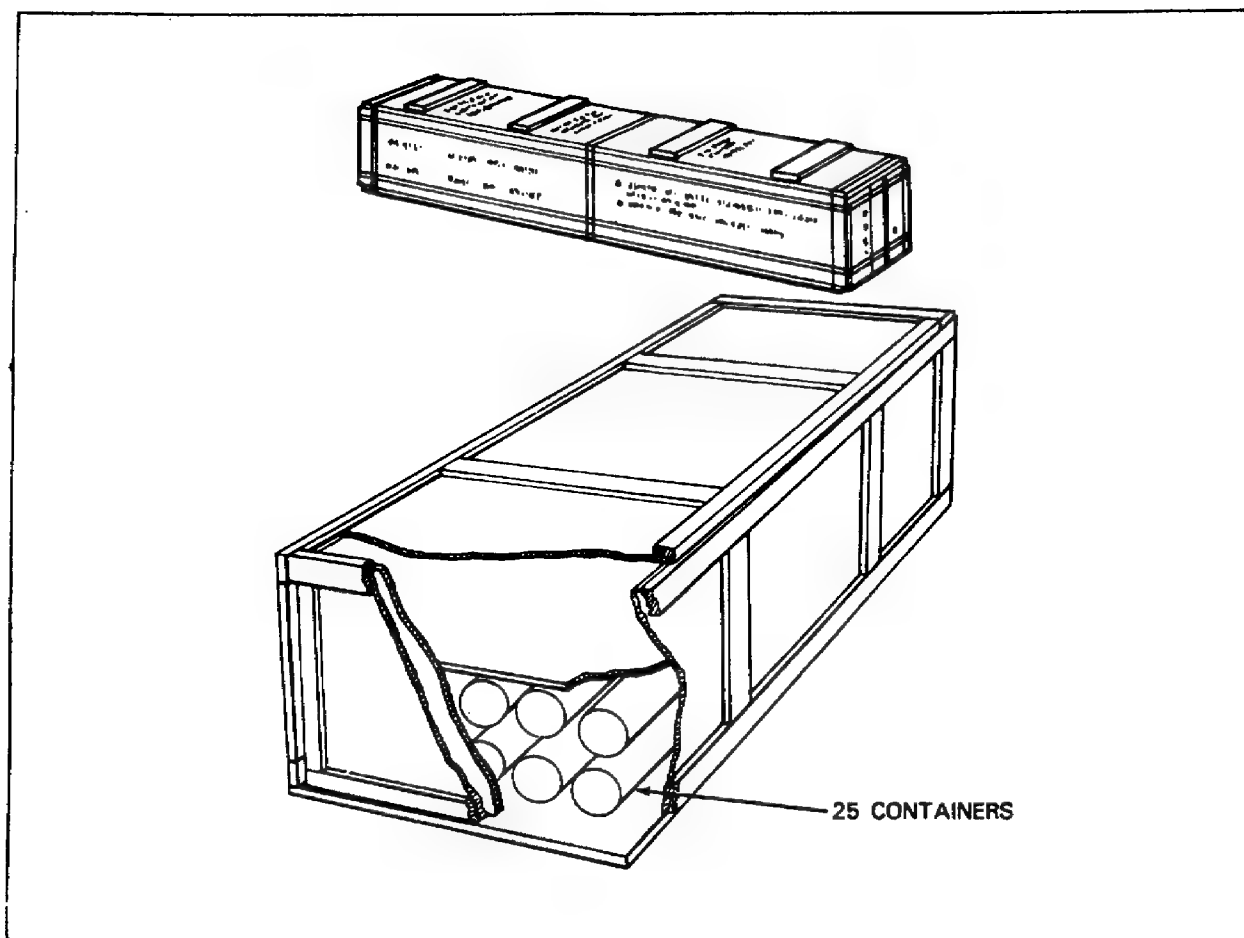
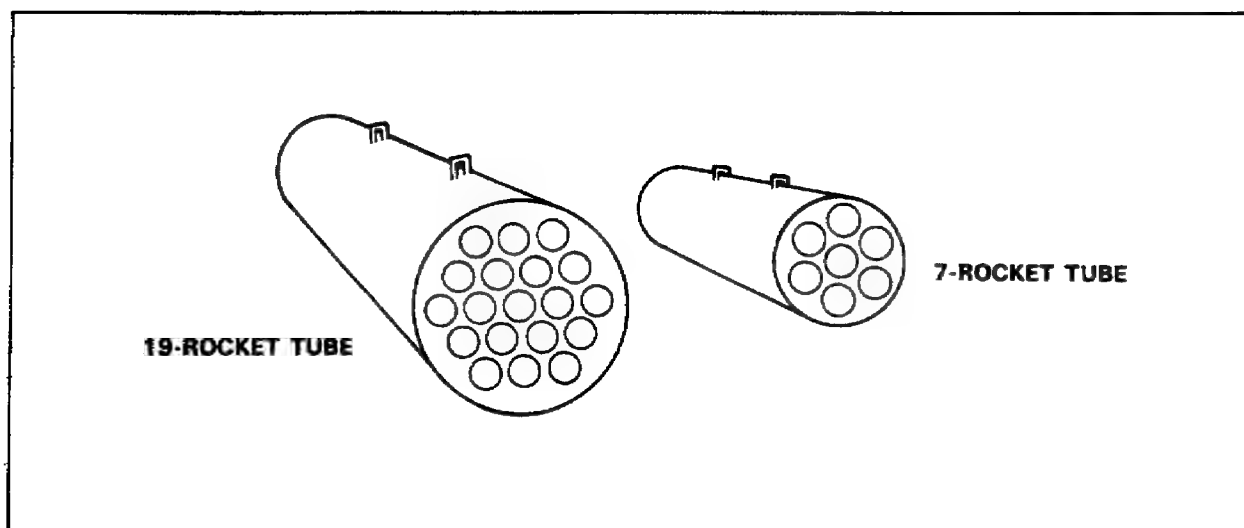

Figure 49. Two Types of 2.75-Inch Aircraft Rocket Boxes.
Figure 50. Two Types of 2.75-Inch Aircraft Rocket Launchers.
**Packing.** The 2.75-inch aircraft rocket may be issued as a complete round or as separate components, with warhead, fuze, and rocket motor in separate containers. Complete rounds and rocket motors are packaged individually in fiber containers, with 3, 4, or 25 containers to a wooden box. See Figure 49. Aircraft that employ the 2.75-inch aircraft rocket are equipped with multiple-tube launchers (see Figure 50).